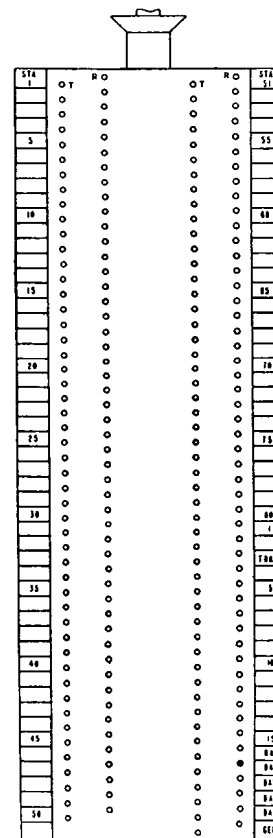

Fig. 6—Typical Arrangement of Binding Post Chamber for 80-Line PBX
3.17 For an 80-line PBX a H101-type binding post chamber equipped with a plastic covered cable stub may be used as the PBX cross-connecting terminal and the cable stub should be wired permanently to the terminal strip of the PBX. Fig. 6 shows a typical arrangement of the chamber.